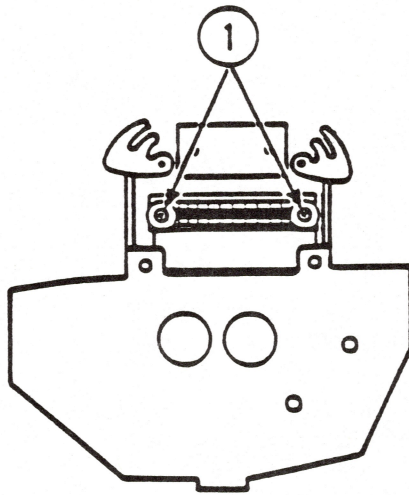

FIGURE 13
21. Replace the dot head connector (see Figure 13, #1).